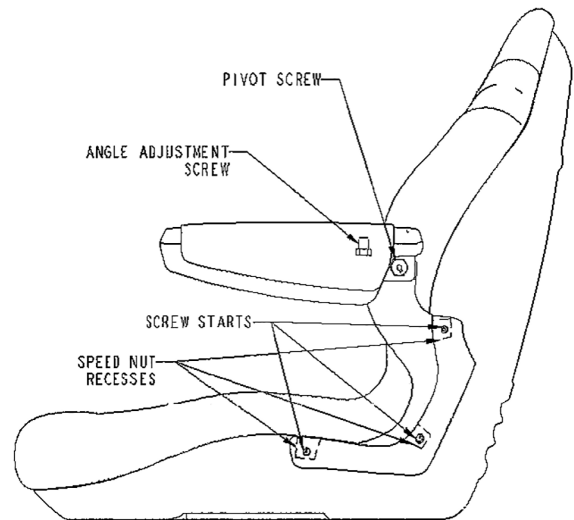

Figure 1
1. Fit three speed nuts into recessed areas as shown in Fig. 1. The outside surface of the shell has screw starts molded in. These screw starts are to line up with the hole center of the speed nut. The flat surface of the speed nut needs to be on the outside of the shell, and the threaded surface of the speed nut needs to be between the cushion and the shell. If there is glue on the shell surface in the speed nut recessed area, break it free from the shell with a sharp instrument (knife, flat bladed screw driver, or wood chisel with flat side to shell). This is to allow the speed nut to be fully seated.